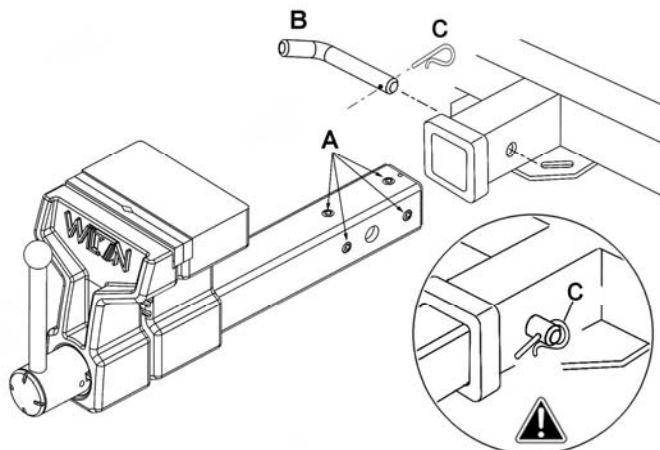

Figure 2
Refer to Figure 2.
4. Slide vise tube into bench receiver. If there is too much “play” within the receiver, rotate any of the four adjustment screws on the tube (A, Figure 2).